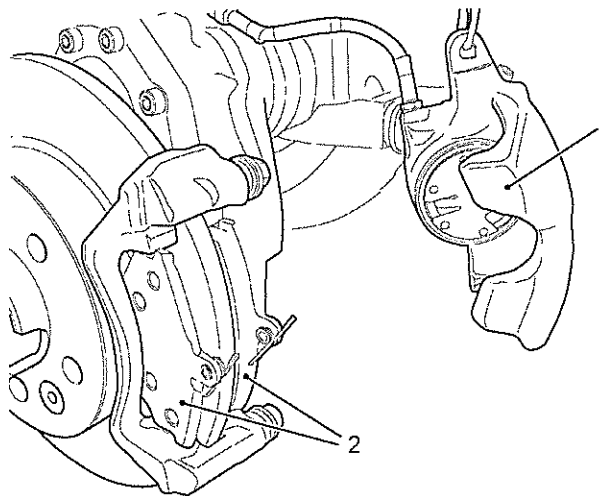

Fig 7 Removing brake pads
- 17 Hang calliper locally from the vehicle using rope/wire (see Fig 7 (1)).